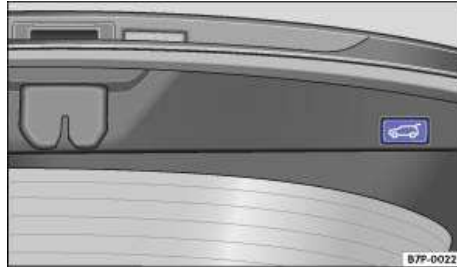

Fig. 32 Button in the open rear hatch.
- **OR:** Press the button in the open rear hatch ⇒ fig. 32 ⇒ .
- Press the ⇒ fig. 32 button in the open rear hatch ⇒  for at least 3 seconds. This saves the opening angle.
- Press the ⇒ fig. 32 button in the open rear hatch for at least 3 seconds.